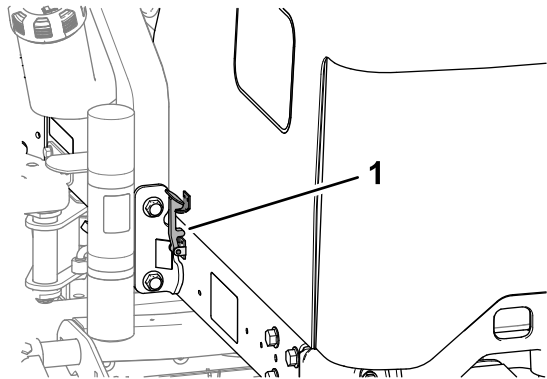

Figure 57
2. Rotate the hood up and back (Figure 57).